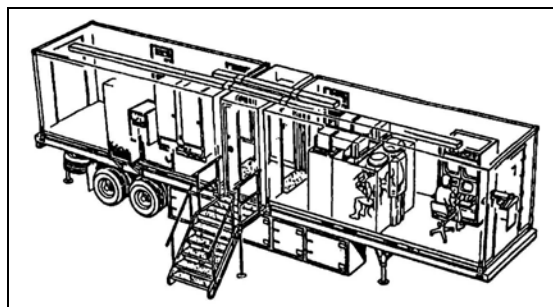

Figure 4-6. Mobile conduct-of-fire trainer.
(2) The MCOFT (Figure 4-6) consists of a training shelter and a computer shelter mounted on a trailer to allow movement between various unit locations. The Army National Guard is the main user of the MCOFT. The instructor's (HB 23-1 series) and TM 9-6920-759-10 provide operating instructions.